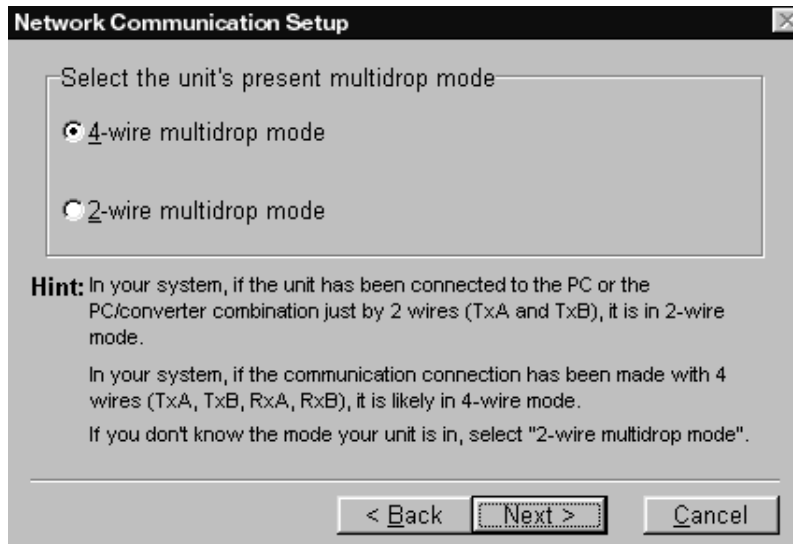
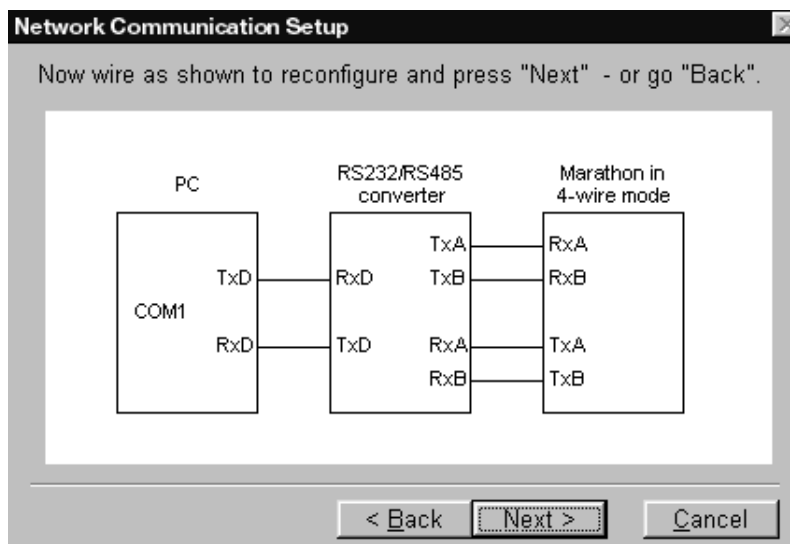

Figure 3-7: Multidrop Mode Screen
Figure 3-8: 4-Wire Wiring Diagram
4. Select the mode that your sensor is currently set to. If you are running this program for the first time, it will be Standalone. (If unsure, select Multidrop.) If you select Standalone, the program will display a screen similar to Figure 3-8. Please proceed to Step 5. If you select Multidrop, a screen similar to Figure 3-7 displays.
5. If you selected “4-wire multidrop mode,” you are shown a wiring diagram to verify the attached sensor is wired correctly (Figure 3-8). If this is correct, click Next.